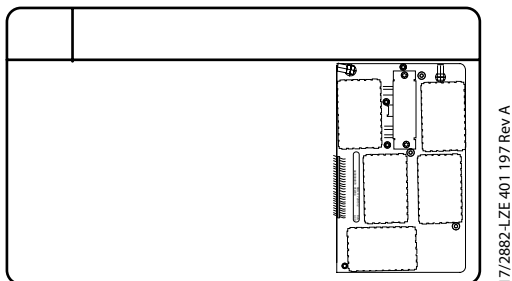

Figure 11 Locating the FE Radio Board in the FE Case Bottom Frame (FBF). The FE Radio Board is to the right in the figure.
5. Locate the FE Radio Board, see Figure 11.